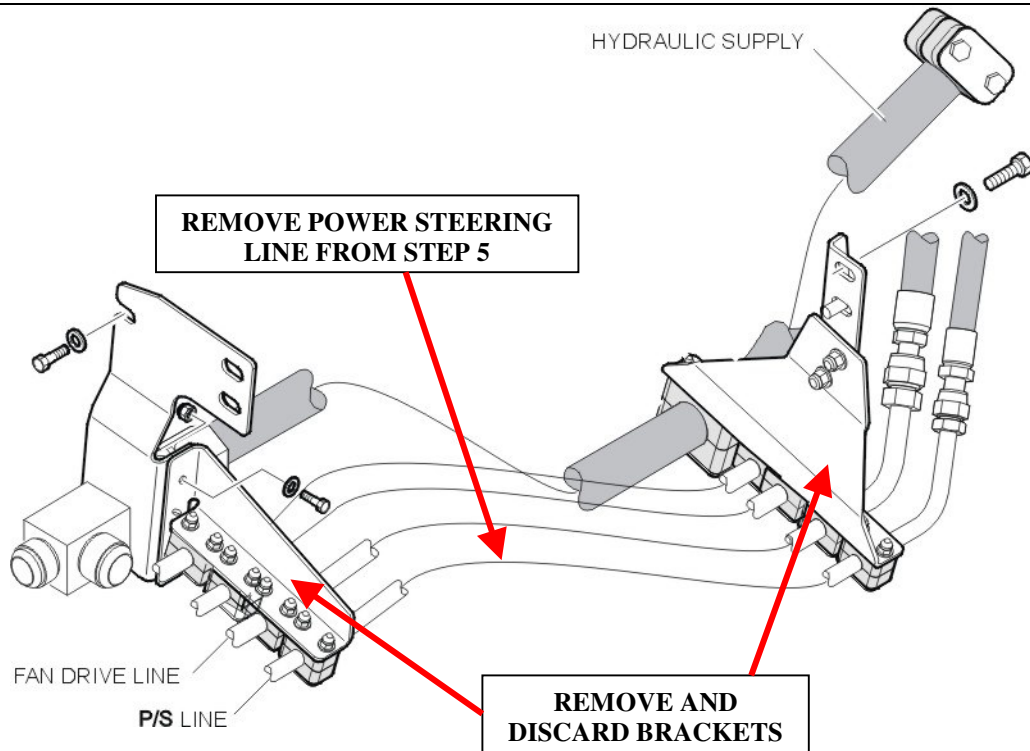

Figure 1: Bracket Removal
6. Remove the brackets shown in Figure 1.